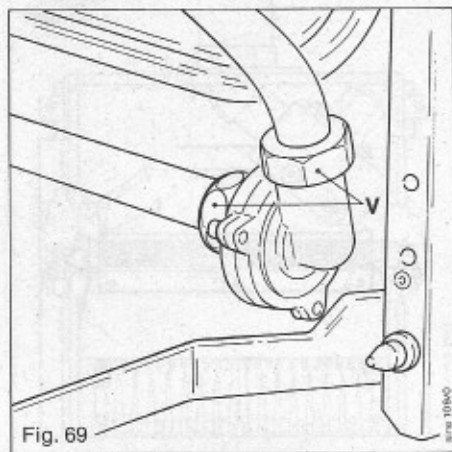

Fig. 69
14.14 Change of system bypass (Fig. 69)